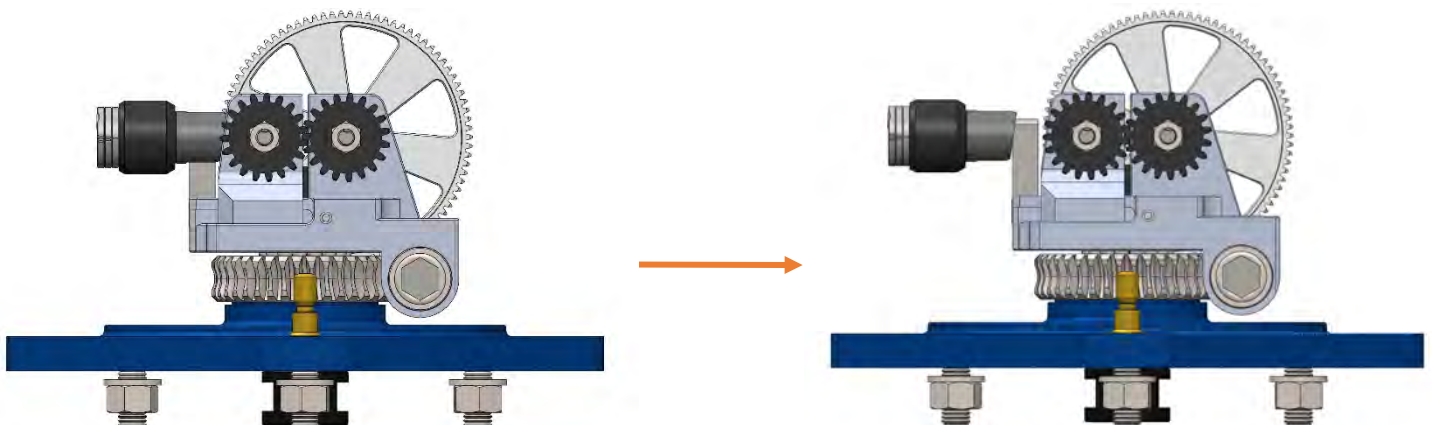

Figure 27
2. Loosen the knob until it reaches the run end position. Figure 27;